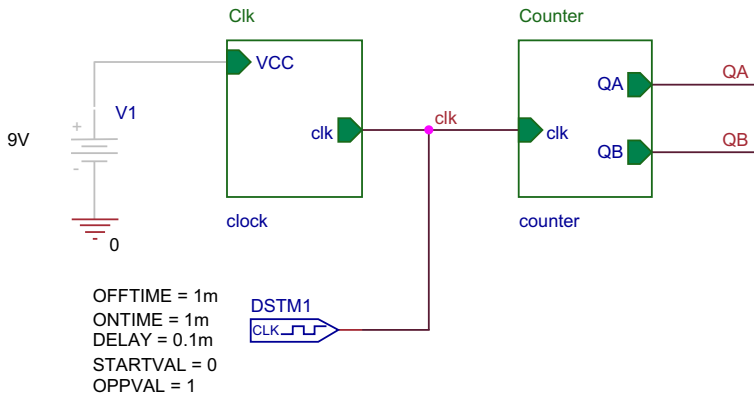

FIGURE 22.22
24. Add a DigClock source from the source library and set its parameters as shown in Figure 22.22.